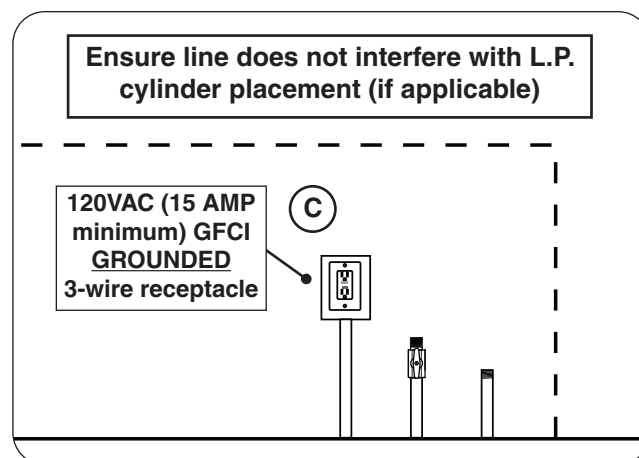

Fig. 22-2 Route electrical (receptacle)
1. Wire the receptacle into the area that the hearth will rest over (see Fig 22-2, C).